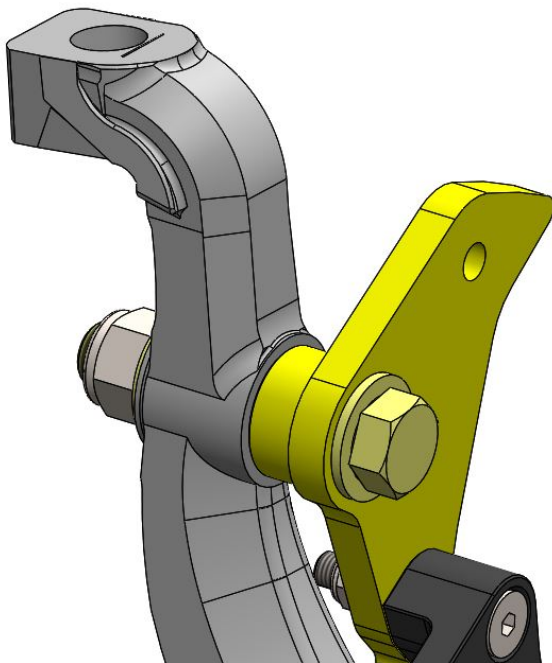

Figure 2 – Upper Bushing Installed
5. Install the Steel Caliper Mounting Bracket on the previously installed aluminum bracket. At the upper mounting point on the spindle, position the 9/16"-18 x 3.000" bolt through the bracket along with the Steel Spacer Bushing on the backside of the bracket. See Figure 2 below for proper orientation. Use the 9/16"-18 SAE Flatwasher and the 9/16"-18 Nyloc Lock Nut and snug only at this time. Once in place, put the 5/16"-24 x 2.000" Flat Head Cap Screw and the 3/8"-24 x 1.750" Flat Head Cap Screw through the aluminum bracket and the steel bracket. Use the 5/16" SAE Flatwasher and 5/16"-24 Nyloc Lock Nut and the 3/8"-24 SAE Flatwasher and 3/8"-24 Nyloc Lock Nut when installing the hardware. These can be tightened and torqued at this time to 20 ft-lbs for the 5/16" bolt and 35 ft-lbs on the 3/8" bolt. Figures 2 and 3 below show the steel bracket installation.